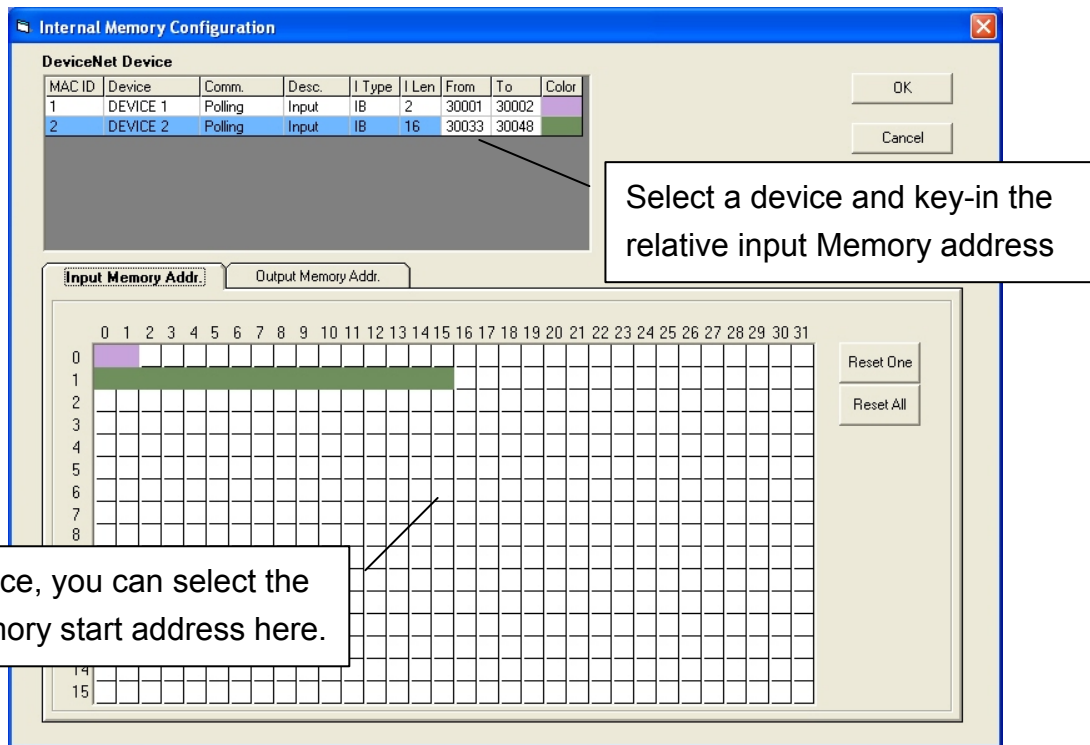

Figure 5-30: Input Memory Address
- Then users can configure the DeviceNet input devices into Input memory address or the DeviceNet output devices into output memory address. As shown in figure 5-30, 5-31.
As the setting of figure 5-30 and 5-31, users can get the Device1, 2 bytes polling input data, and Device2, 16 bytes polling data, on the Input Memory Table, 0000~0001 and 0100~0115 after click the “Get Data” button or “Auto button”. As shown in figure 5-33.